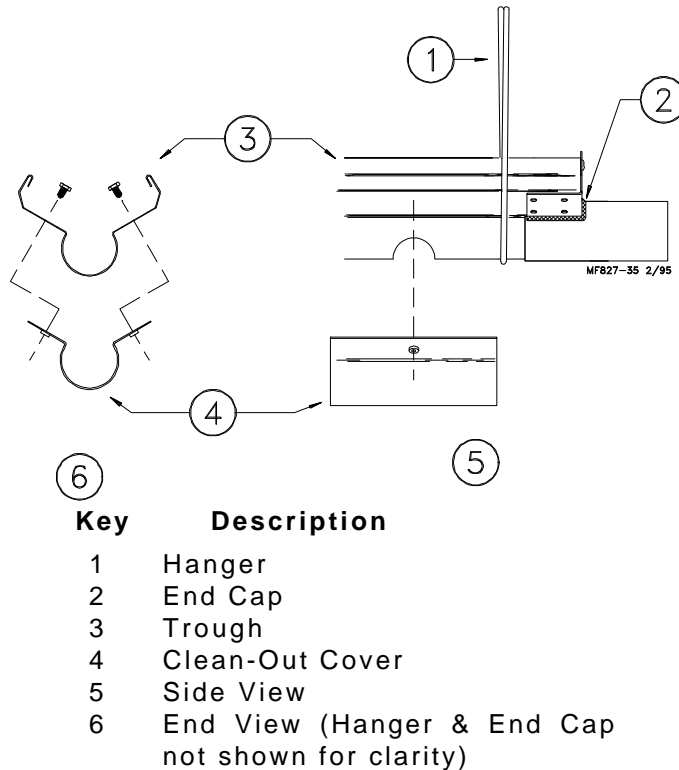

Figure 25. Clean-Out Cover Installation (Side View & End View as noted)
12. Install a Clean-Out prior to each set of elbows. See Figure 25.
Install a Clean-Out Cover over the hole and secure in place using 10-24 hardware supplied in the Clean-Out Cover Kit. See Figure 25.